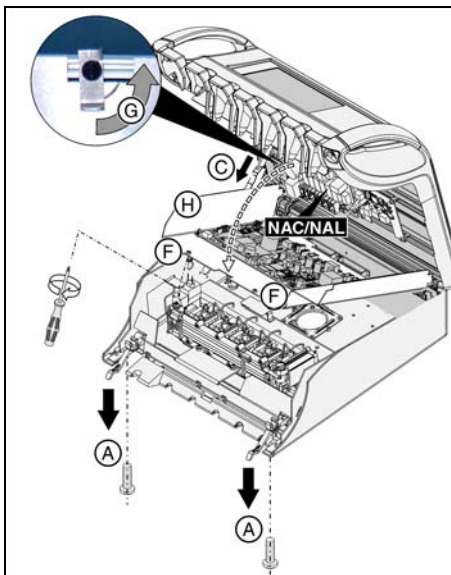
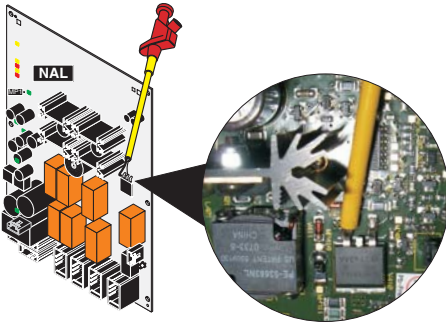
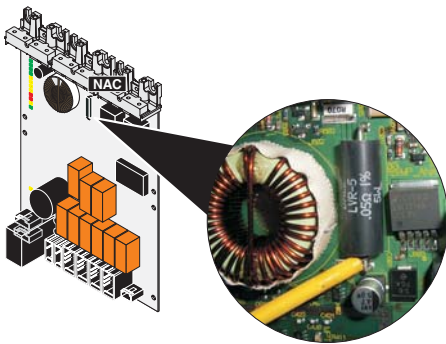

Fig. 3-10 Opened dentist element
Fig. 3-11 NAL board - V 410, pin 3
Fig. 3-12 NAC board - R533
1. Open the dentist element by flipping the two locking brackets (A) downwards and removing the two screws with a screwdriver (Figure 3-10).
3. Remove the two screws (F) on the cover plate.
4. Flip the locking bracket (G) upwards.
5. Now fold the plate (H) downwards.
6. Attach the test terminal to the VPC measuring point (see Figure 3-11, 3-12).
- VPC measuring point on NAL or NAC board contacting VPC, see section 3.3, Fig. 3-11 or Fig. 3-12.
To establish contact with the VPC, see section 3.3, Fig. 3-11 or Fig. 3-12